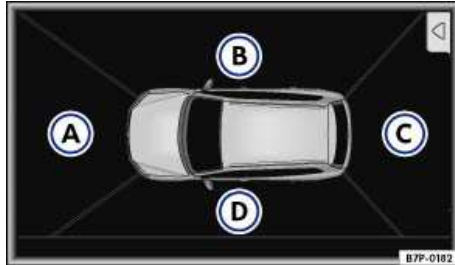

Fig. 293 Display of the Area View: Bird's eye view.
There are 4 different camera views ⇒ fig. 293:
Select the different camera views by tapping the individual areas in the bird's eye view ⇒ fig. 293 (A) to (D) or mini bird's eye view ⇒ fig. 294 (A).
- **Bird's eye view:** For an all-round view of the vehicle , also for off-road driving . The bird's eye view is shown on the full screen ⇒ fig. 293.
Manually activate display:	Press button ⇒ fig. 295 . The bird's eye view is activated on the Infotainment System screen ⇒ fig. 293 . The display will not switch on at speeds above about 9 mph (15 km/h).